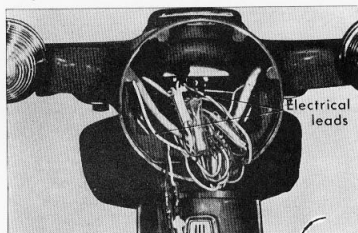

Figure 4-3. Disconnect electrical lead
- (1) Remove the front cover.
- (2) Remove the headlight assembly and disconnect all electrical leads. (Fig. 4-3)
- (3) Uncouple the speedometer cable and disconnect the front brake cable.
- (4) Disconnect the throttle cable by removing the carburetor cap and disengage the cable end from the throttle valve. (Fig. 4-3)
- (5) Loosen the two 8mm hex nuts and remove the handle together with the cables and electrical leads.